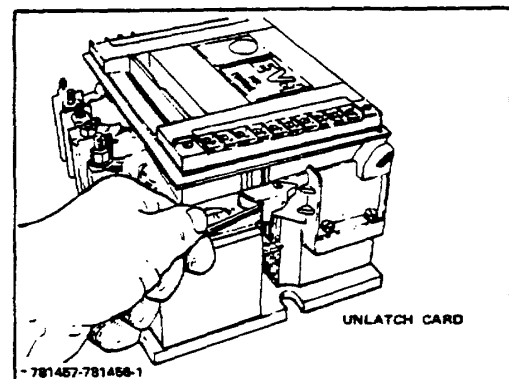

Figure 8-3. Control Card Latches
- (3) Pry open the latches on both sides of the card carefully with the screwdriver (Fig 8-3)